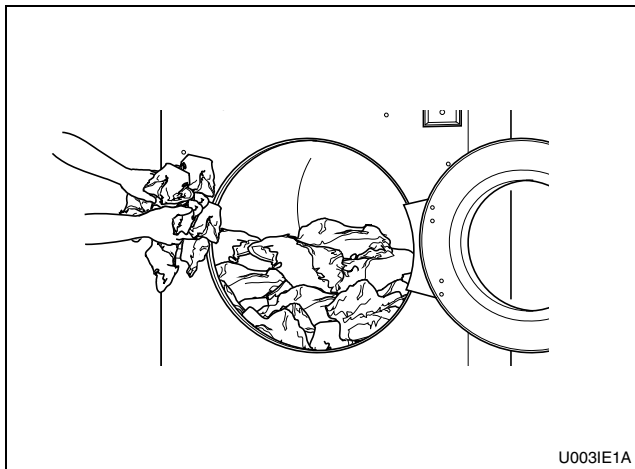

Figure 16
3. Load to capacity whenever possible. **DO NOT OVERLOAD.** Refer to *Figure 16*.